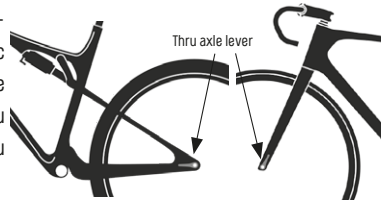

Fig. 2/38 KTM thru axle
i.e. the fork leg ("Fig. 2/ KTM thru axle" on page 38), you can change the position of the thru axle lever afterwards. To do this, loosen the 4 mm Allen screw and then move the lever to the desired position. Tighten the 4 mm Allen screw with 5 Nm torque.